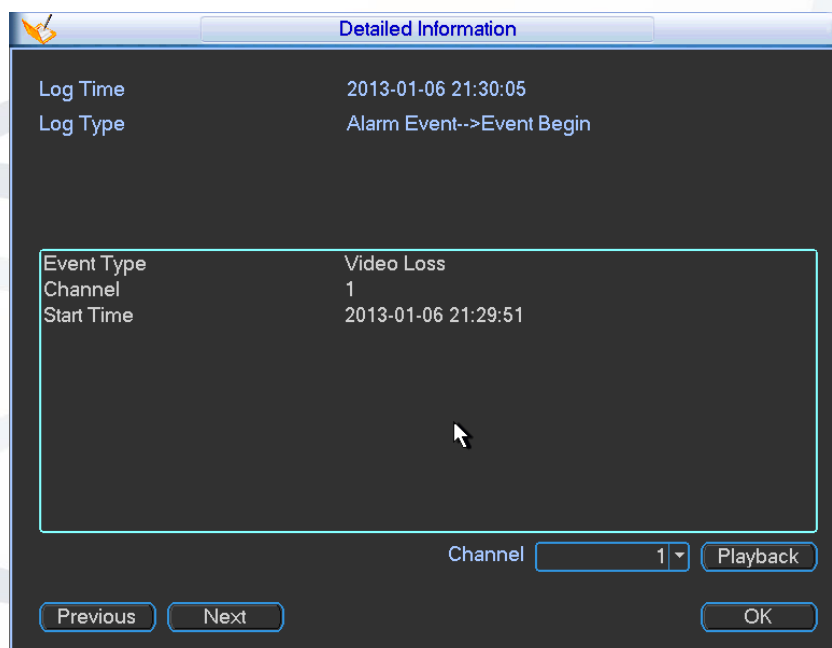

Figure 5-70
- **Details:** Click the Details button or double click the log item, you can view the detailed information. See Figure 5-70. Here you can use rolling bar to view information, or you can use Page up/Page down to view other log information. For the alarm event log such as video loss, you can click the Playback button at the bottom right corner to playback.